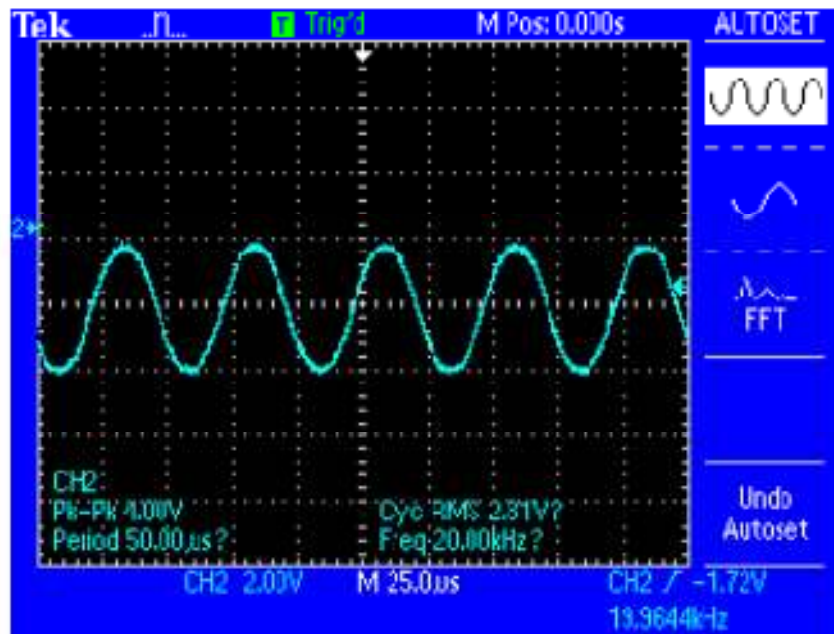

Figure 4.13: Display on scope
1. Using Figure 4.13 and 4.14, answer the following questions: